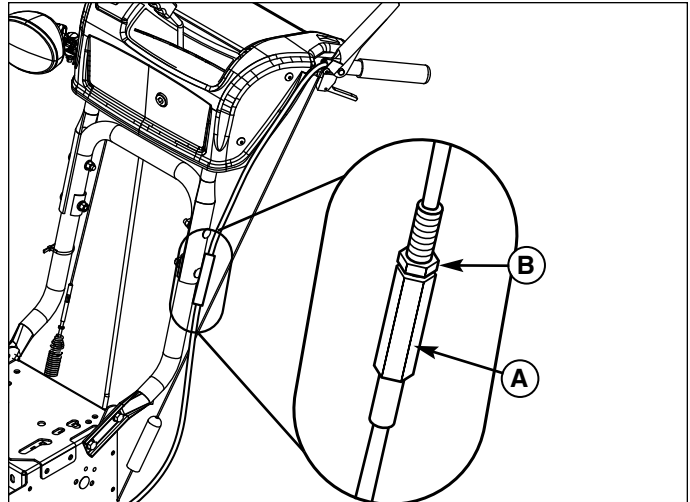
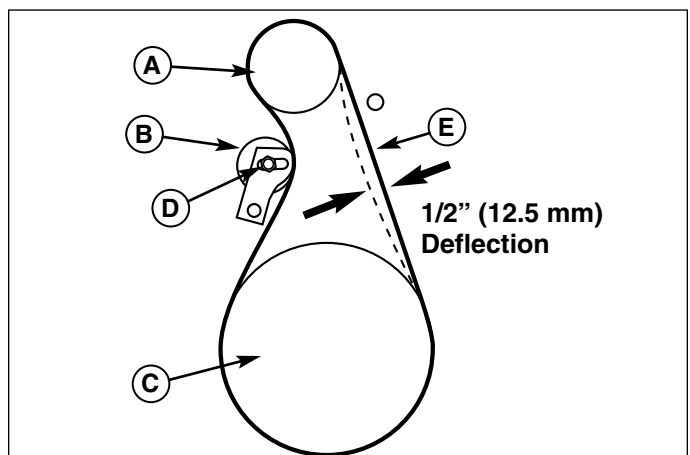

Figure 23. Cable Adjustment
Figure 25. Auger Belt Deflection
2. Loosen the jam nut (B, Figure 23).
3. Turn the adjustment nut (A) to lengthen or shorten the cable. The cable should be tightened just until all slack is removed from the lever, however it must not engage the Easy Turn™ release without depressing the control lever.
3. Loosen nut (D, Figure 23) on auger idler pulley (B) and move auger idler pulley towards belt about 1/8 inch (3 mm).
4. Tighten nut (D).
5. Engage auger drive clutch. Check tension on belt (opposite idler pulley). Belt should deflect about 1/2 inch (12.5 mm) with moderate pressure see Figure 25). You may have to move the idler pulley more than once to obtain the correct tension.